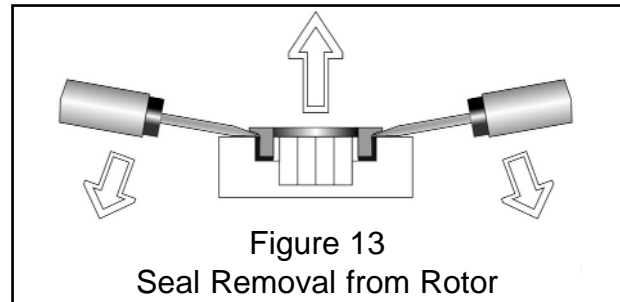

Figure 13
c) Only remove the rotary seal seat (80) from the back of the rotor (56 & 57) if you intend
to fit a new seal or cup rubber (83). Gently prise out the seat from the rotor using two blunt screwdrivers. (See figure 13). Seat materials are brittle, eye protection is recommended.